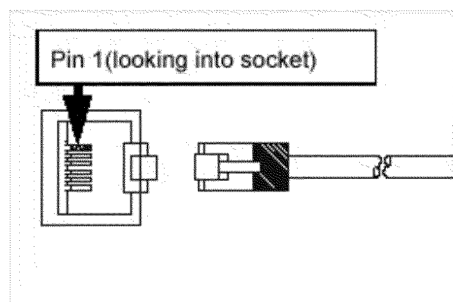

Figure 7 – the RJ12 plug
- 2) To disconnect the RJ12 plug (see figure 7 – the RJ12 plug) of the Segment 3 cable from the rear of the Counter PC, identify COM12 on the Specialix card at the rear of the base unit. (See Figures 16 and 17 for details) The RJ12 plug will be clipped into place – to unclip the plug and disconnect the cable, depress the small clip on the RJ12 plug and remove the cable.